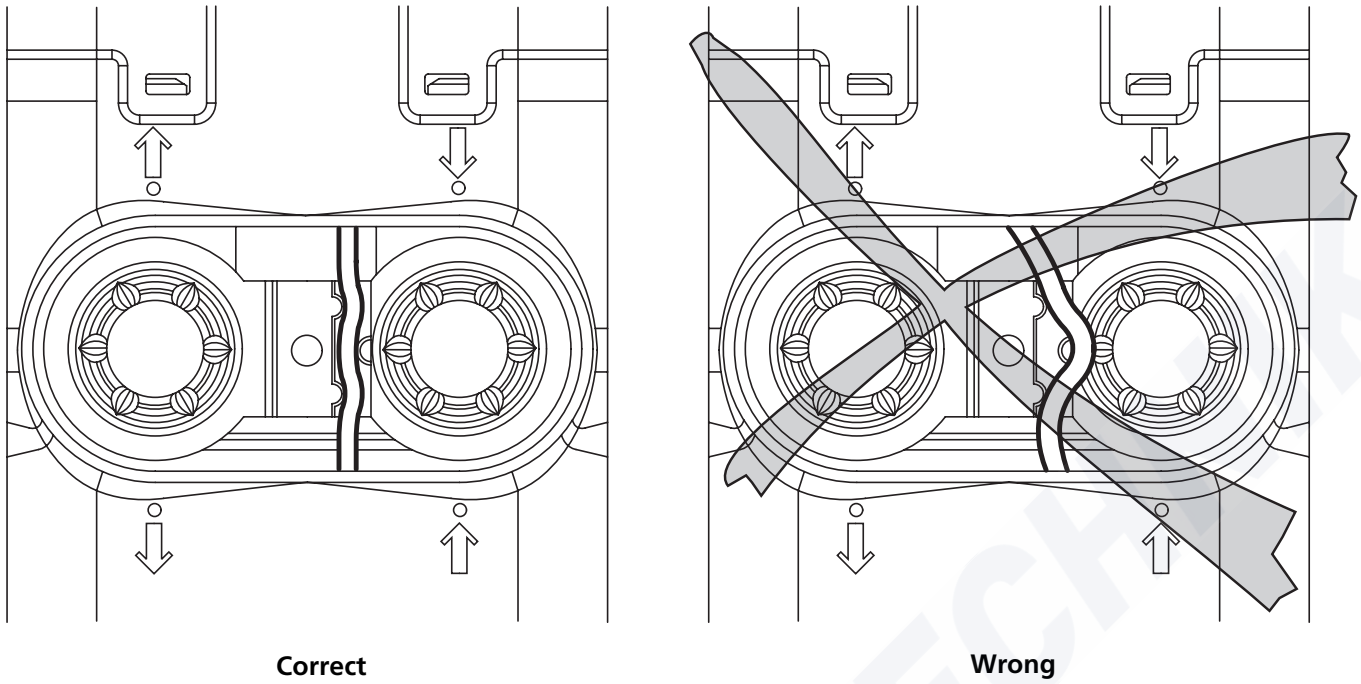
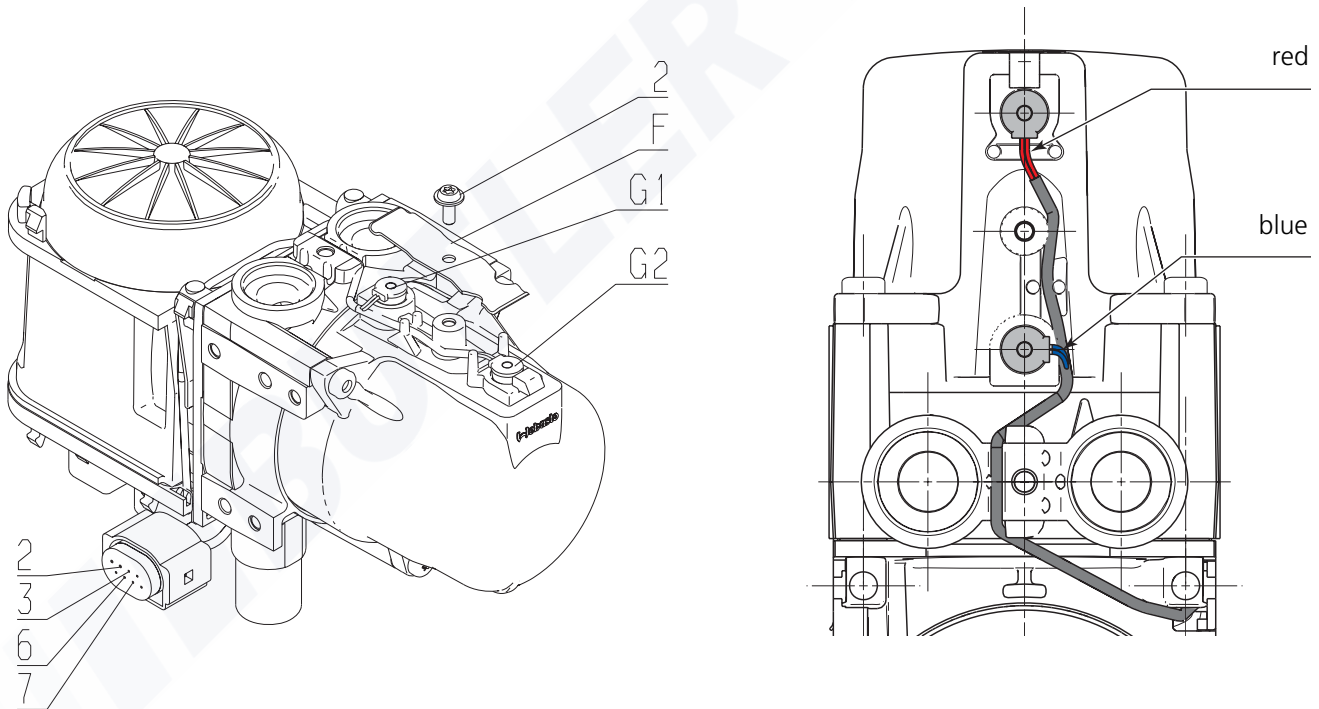

Fig. 910 Cable routing for temperature sensor and overheating sensor with water connection-piece variant A
Fig. 911 Cable routing for temperature sensor and overheating sensor with water connection-piece variant B
See Fig. 910.
See Fig. 911.
1. Moisten sensors with coolant and press as far as possible into hole of heat exchanger. In the process, ensure correct position of sensors and cable (see Fig. 910 and Fig. 911).
2. Lay on retaining spring and fasten with screw (2) with  $4 \pm 0.4$  Nm tightening torque. Before screwing on, make sure that wires are not crushed by retaining spring as shown. Retaining spring (F) must face toward front with 2 side notches and be fixed in place by positioning pins of heat exchanger.
3. Route cable tautly as shown in Fig. 910 and Fig. 911. The cable may not lie outside the cable duct provided, as otherwise it may be damaged when installing the water connection piece.